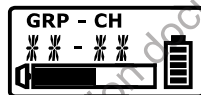

Fig. 10
- (3) The specific group and channel set via PC will display ※※ - ※※. Fig. 10